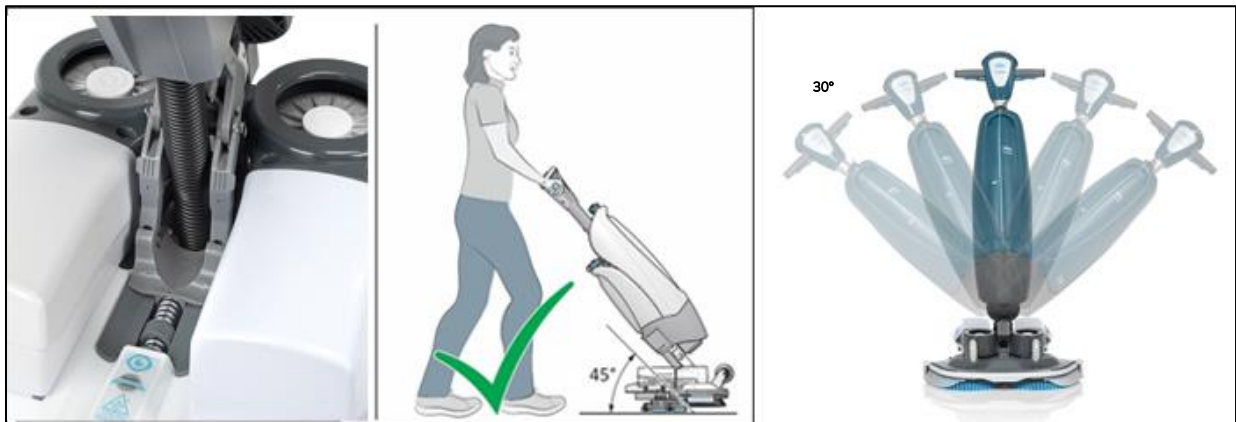

Figure 19
10. The i-balancer, (figure 19)